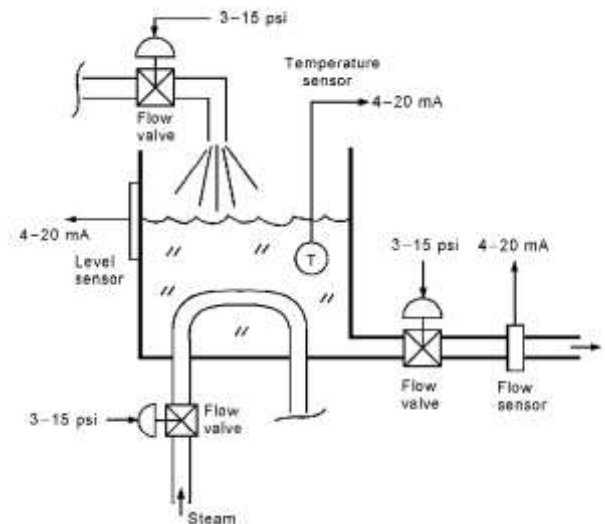

Fig. 2
b) For the manufacturing process diagram shown in Fig. 2: The following independent control requirement.